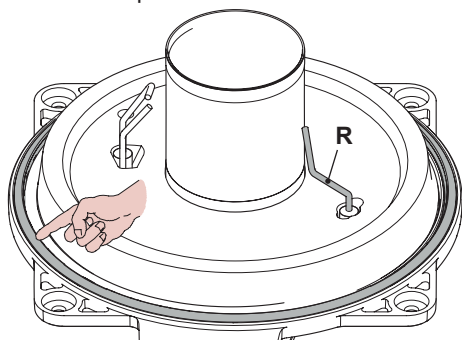
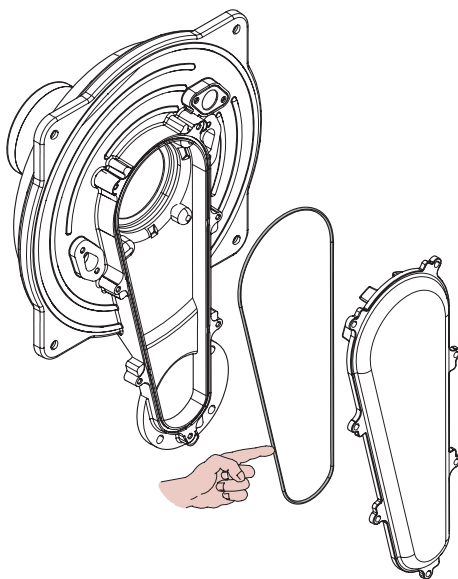

Fig. 10.9
Fig. 10.10
- The silicon seal on the front wall of the combustion chamber Fig. 10.9 and the seal on the air/gas pipe cover (Fig. 10.10) must be replaced if worn.
- The detection electrode **R** in Fig. 10.9 also functions as a sensor for the correct drainage of the condensate. Should the mentioned electrode come into contact with the condensate water present within the combustion chamber it sends the boiler into safety lockout. Therefore, should the insulation be wet or deteriorated, provide for the substitution of the same.
**Caution:** After any periodical servicing or disturbance the combustion chamber silicon seal Fig. 10.9 and the Air-gas duct gasket (Fig. 10.10) must be fully inspected and replaced at the discretion of the service engineer.